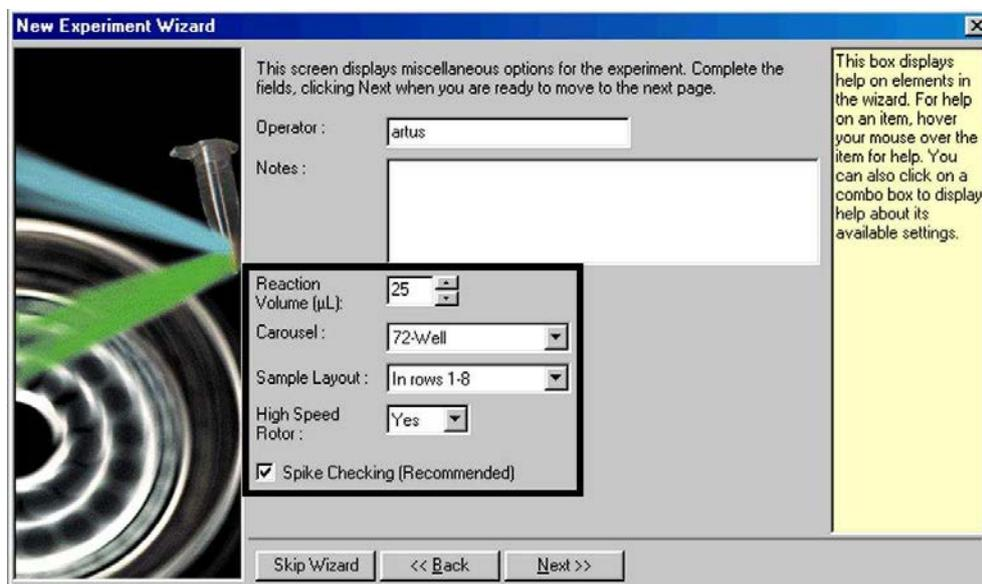
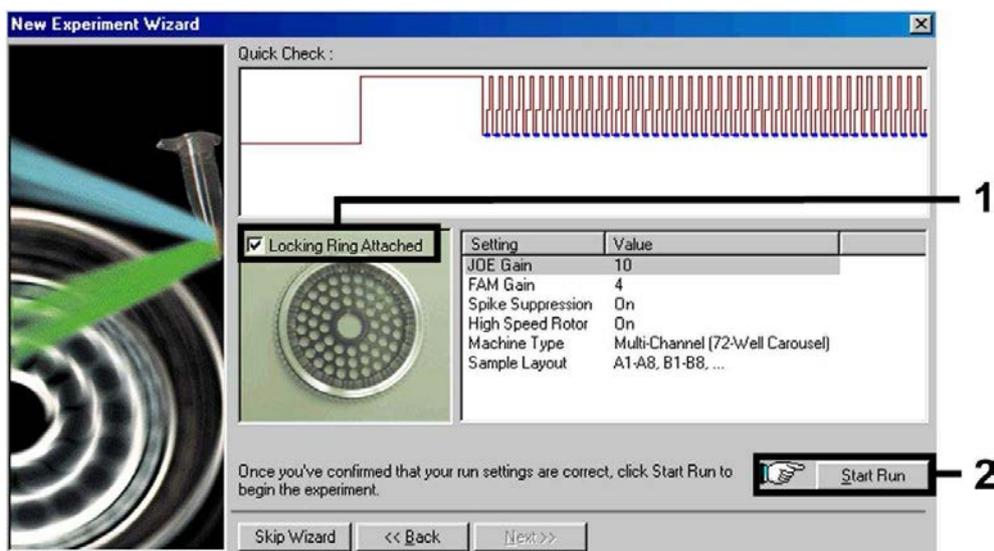

Fig. 3: Setting of General Assay Parameters.
Fig. 8: Starting of the *artus 3000* or *Rotor-Gene 3000* Run.
For the detection of SARS-CoV RNA, create a temperature profile on your *artus 3000* or *Rotor-Gene 3000* according to the following six steps (see Fig. 3 – Fig. 8).
- A. Setting of General Assay Parameters Fig. 3
- F. Starting of the *artus 3000* or *Rotor-Gene 3000* Run Fig. 8
First, enter the PCR reaction volume in the menu window *New Experiment Wizard* (see Fig. 3).
The gain values determined by the channel calibration are saved automatically and are listed in the last menu window of the programming procedure (see Fig. 8).